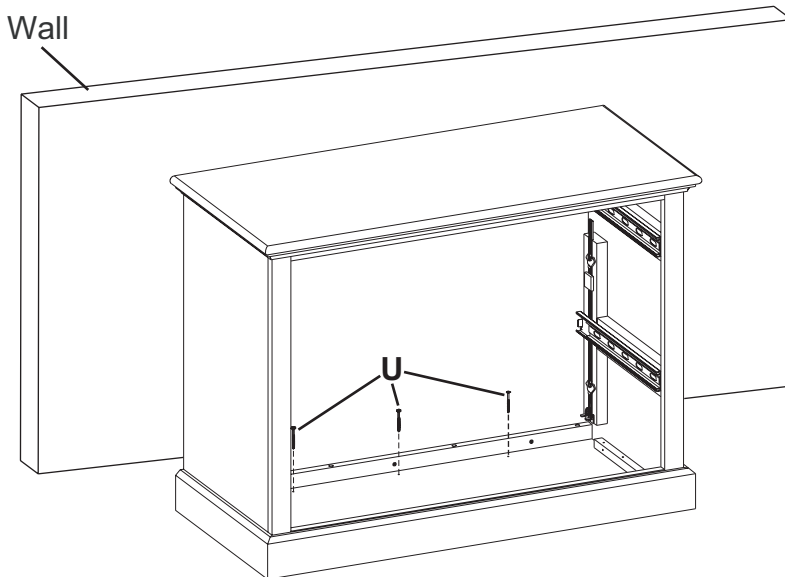

Fig. 5
5. Using three #8 x 2-3/4" Black Screws (U), secure the file cabinet to the floor. See Figure 5.